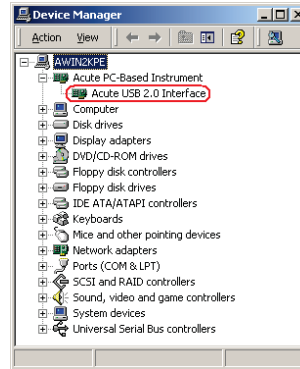

Figure 6
- (7) You will see the “Acute USB 2.0 Interface” in the Device Manager (Figure 6).